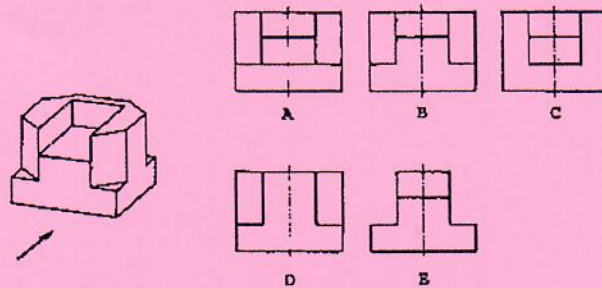

Figure 5 Work-piece viewed from the front.
- e) If you look in the direction of the arrow of the work-piece in Figure 5, which view represents it correctly? [2 marks]